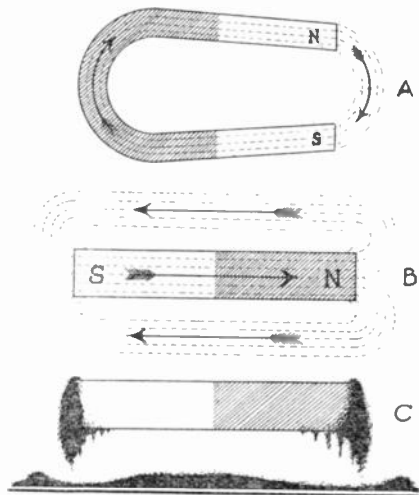

FIG. 1
in the position which the magnetic lines of force are believed to occupy. The total number of lines of force is called the magnetic flux. In Fig. 1 at (A) is shown the magnetic circuit of a horseshoe magnet. The magnetic lines of force leave the magnet at the north pole and re-enter at the south pole, flowing in the direction indicated by the arrows. At (B) is shown the magnetic circuit of a bar magnet. Here the magnetic lines of force which emerge from the north pole flow around to the south pole through the surrounding space. If a compass is placed in the positions indicated by the arrows, the magnetic needle will arrange itself so as to conform with the magnetic lines of force and will point in the directions indicated.